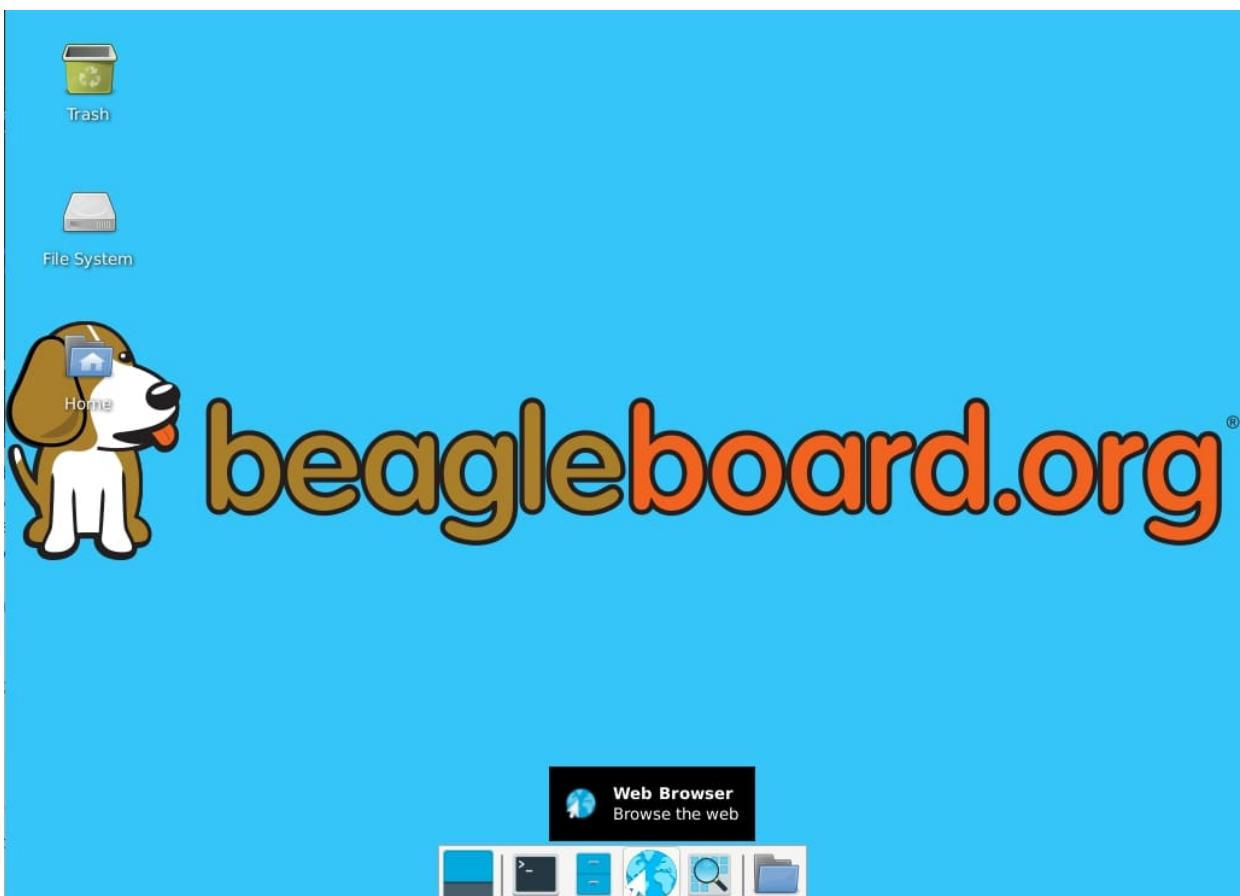

Figure 16. BeagleBone XFCE Desktop Screen
- c. After a minute or two the desktop will appear. It should be similar to the one shown in Figure 16. HOWEVER, it will change from one release to the next, so do not expect your system to look exactly like the one in the figure, but it will be very similar.
- d. And at this point you are ready to go! Figure 16 shows the desktop after booting.